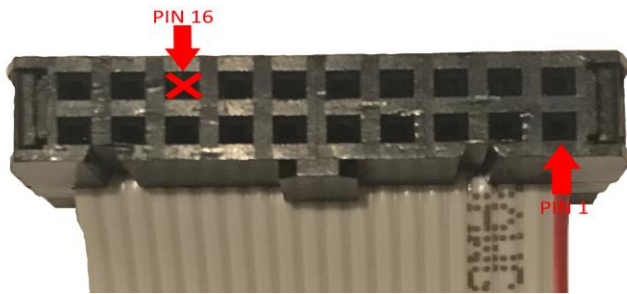

Figure 3 Serial Cable Keying
2. On the cable that will connect to connector J3 block the plug for pin number 16 with a small amount of epoxy or super glue. See Figure 3.